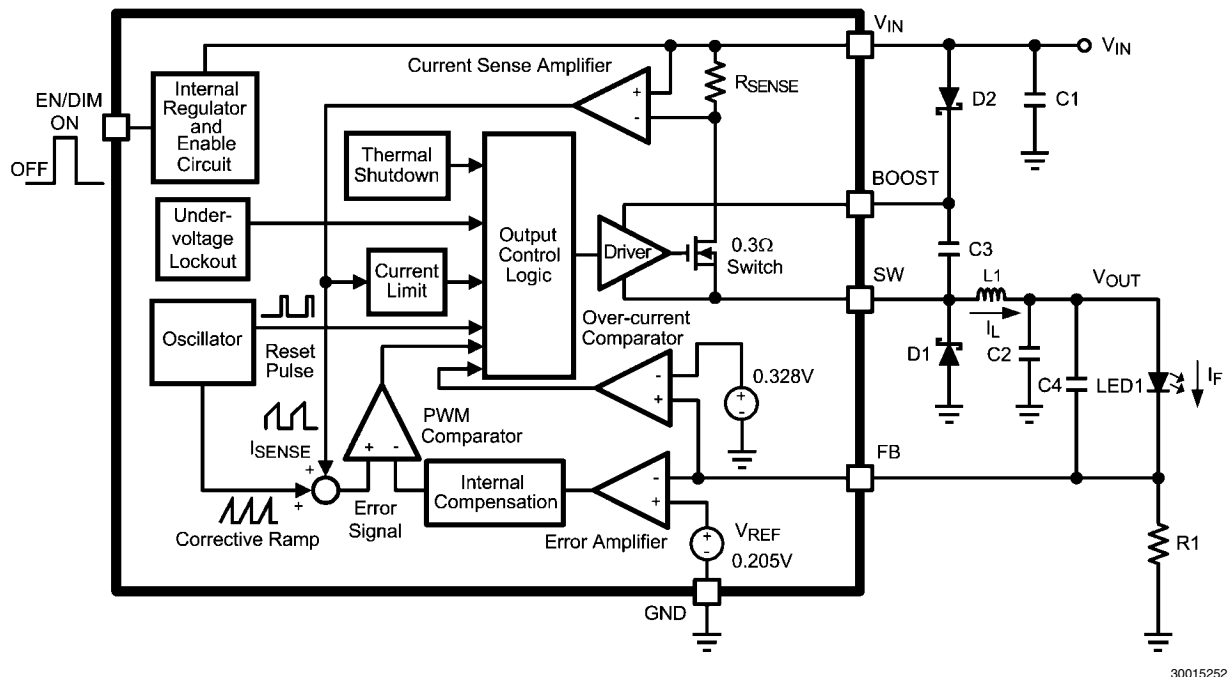
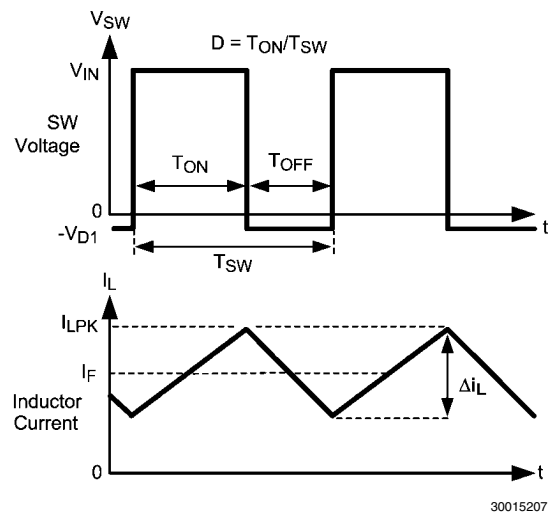

FIGURE 1. Simplified Block Diagram
FIGURE 2. SW Pin Voltage and Inductor Current Waveforms of LM3405A
The following description of operation of the LM3405A will refer to the Simplified Block Diagram (Figure 1) and to the waveforms in Figure 2. The LM3405A supplies a regulated output current by switching the internal NMOS power switch at constant frequency and variable duty cycle. A switching cycle begins at the falling edge of the reset pulse generated by the internal oscillator. When this pulse goes low, the output control logic turns on the internal NMOS power switch. During this on-time, the SW pin voltage (V_{SW}) swings up to approximately V_{IN} , and the inductor current (I_L) increases with a linear slope. I_L is measured by the current sense amplifier, which generates an output proportional to the switch current. The sense signal is summed with the regulator's corrective ramp and compared to the error amplifier's output, which is proportional to the difference between the feedback voltage and V_{REF} . When the PWM comparator output goes high, the internal power switch turns off until the next switching cycle begins. During the switch off-time, inductor current discharges through the catch diode D1, which forces the SW pin to swing below ground by the forward voltage (V_{D1}) of the catch diode. The regulator loop adjusts the duty cycle (D) to maintain a constant output current (I_F) through the LED, by forcing FB pin voltage to be equal to V_{REF} (0.205V).
Capacitor C3 and diode D2 in Figure 1 are used to generate a voltage V_{BOOST} . The voltage across C3, $V_{BOOST} - V_{SW}$, is the gate drive voltage to the internal NMOS power switch. To properly drive the internal NMOS switch during its on-time, V_{BOOST} needs to be at least 2.5V greater than V_{SW} . A large value of $V_{BOOST} - V_{SW}$ is recommended to achieve better efficiency by minimizing both the internal switch ON resistance ($R_{DS(ON)}$), and the switch rise and fall times. However, $V_{BOOST} - V_{SW}$ should not exceed the maximum operating limit of 5.5V.
The first method is shown in the Simplified Block Diagram of Figure 1. Capacitor C3 is charged via diode D2 by V_{IN} . During a normal switching cycle, when the internal NMOS power switch is off (T_{OFF}) (refer to Figure 2), V_{BOOST} equals V_{IN} minus the forward voltage of D2 (V_{D2}), during which the current in the inductor (L1) forward biases the catch diode D1 (V_{D1}). Therefore the gate drive voltage stored across C3 is:
The inductor value determines the output ripple current (Δi_L , as defined in *Figure 2*). Lower inductor values decrease the size of the inductor, but increases the output ripple current. An increase in the inductor value will decrease the output ripple current. The ratio of ripple current to LED current is optimized when it is set between 0.3 and 0.4 at 1A LED current. This ratio r is defined as: